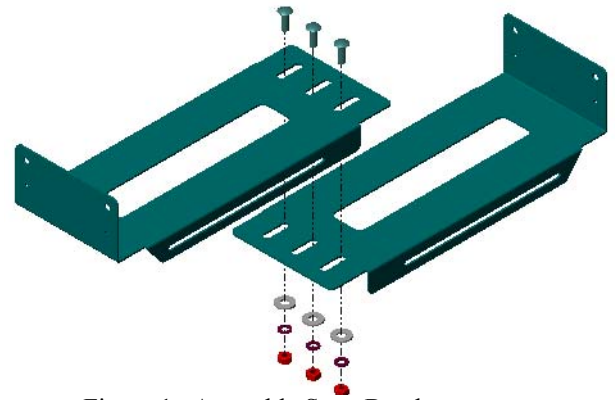

Figure 1. Assemble Span Brackets
1. Assemble the span brackets (10) using three 1/4-20 X 5/8” carriage bolts (30) , three 1/4” flat washers (40), three 1/4” split lock washers (60) and three 1/4-20 hex nuts (50). Do not tighten at this time (see Figure 1).